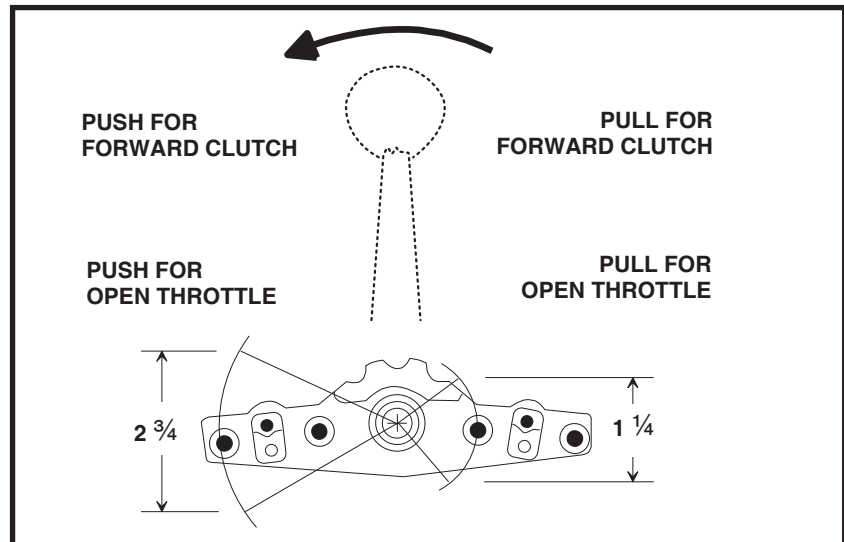

Figure 3.
Cable will be installed in control using outer hole (2 3/4" travel) of control arm in either the push or pull mode as required. Push is toward bow and pull is toward stern of boat. (See Figure 3.)
STEP 1. Determine whether push or pull cable action is required. Refer to Figure 3 on page 3.